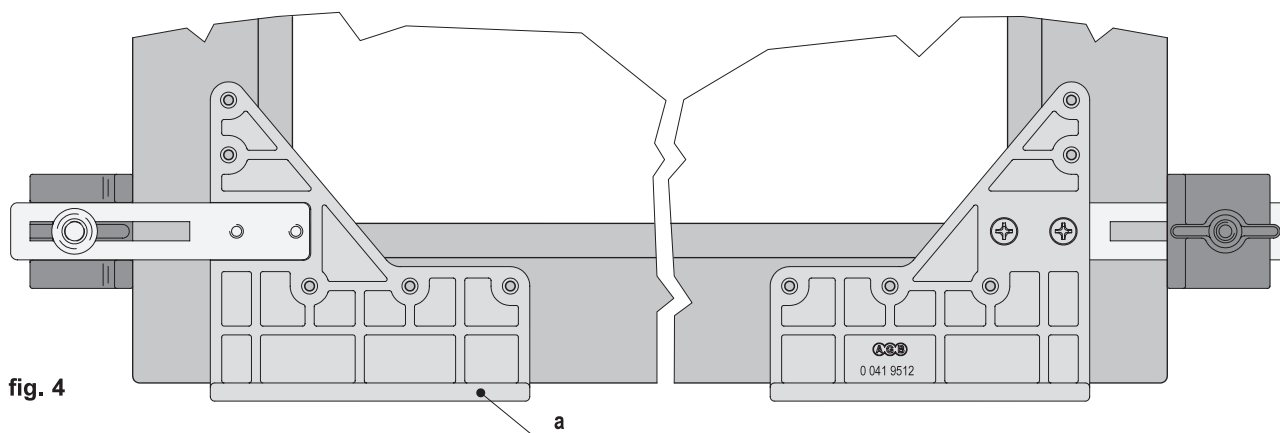

fig. 4
- 3) Flip the jig art. M02030.00.02 (a) 180°, position it on the rebate of the lower rail and of the opposite stile. Drill five more holes using a 4 mm drill bit (fig. 4).